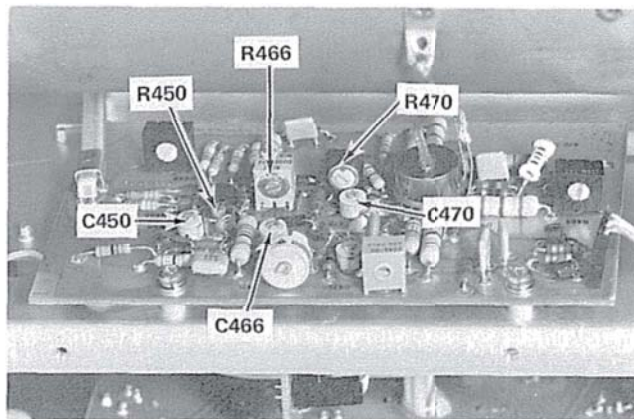

Fig. 5-16. Location of vertical output high-frequency adjustments.
h. ADJUST—C450, R450, C466, R466, C470, R470 (see Fig. 5-16), for best flat-top waveform.